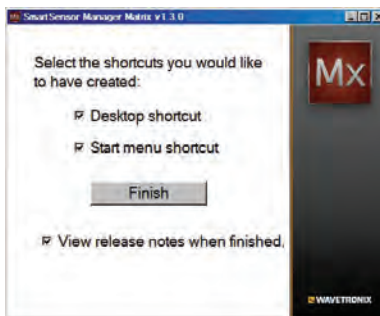

Figure 4.3 – Shortcut Options
- 4 Select an installation location. The default location provided is normally “C:\Program Files\Wavetronix.” If desired, click **Browse** to choose another location (see Figure 4.3).